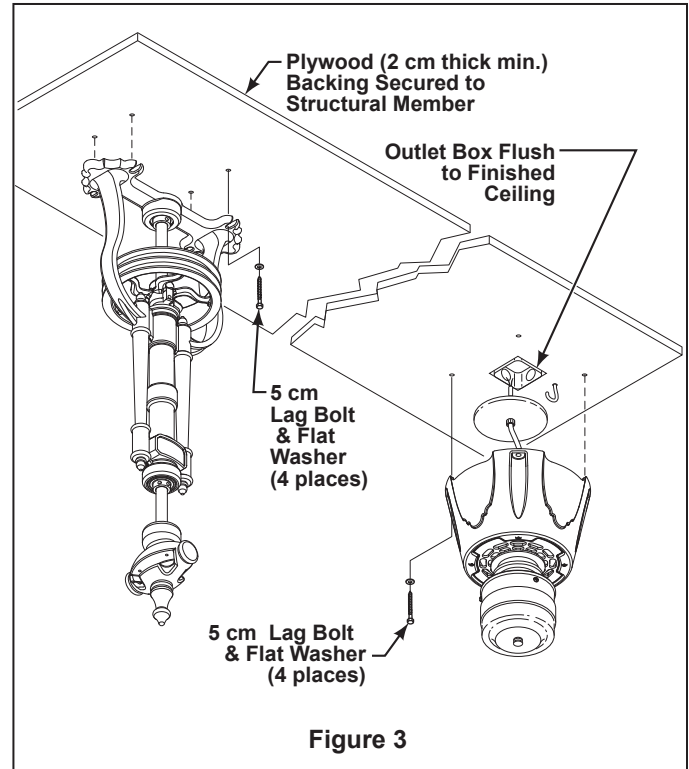

Figure 3
Your new fan will require a grounded electrical supply line of 220-240 volts AC, 50 Hz circuit. The fan shall be mounted on a reliable surface, building structure, capable of supporting a load of at least 15.9 kg. If an outlet box is used, it must be suitable for fan support, and be marked as such. Otherwise it need to be replace by an appropriate one. If you exchange the outlet box, make such the electricity is switched off at the main fuse box. Figure 3 depicts different structural configurations that may be used for mounting the outlet box.
It is recommended that each fan and the motor have 0.02 m plywood backing secured to a structural member for adequate support (Figure 3). The motor unit will not operate more than 2 pulley/blade assemblies.
- ☐ 4. Mount retainer to junction box with screws (provided with your junction box). (Figure 3)
- ☐ 3. Using the rivets, rivet washers, and the rivet tool provided, install two rivets. The fl at head of the rivet must be on the inside of the belt (the side touching the pulley), while the rivet washer is placed on the outside of the belt. (Figures 3, 4, & 5)